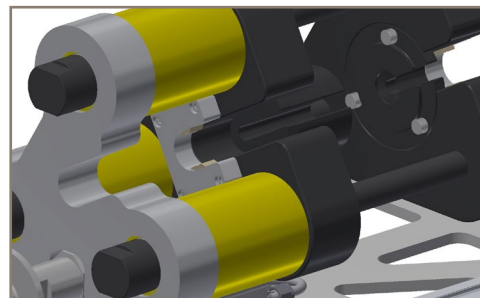

Figure 49
4. Ensure correct orientation of the inserts, where applicable the insert slot should align with the slot of its corresponding jaw (Figure 49).